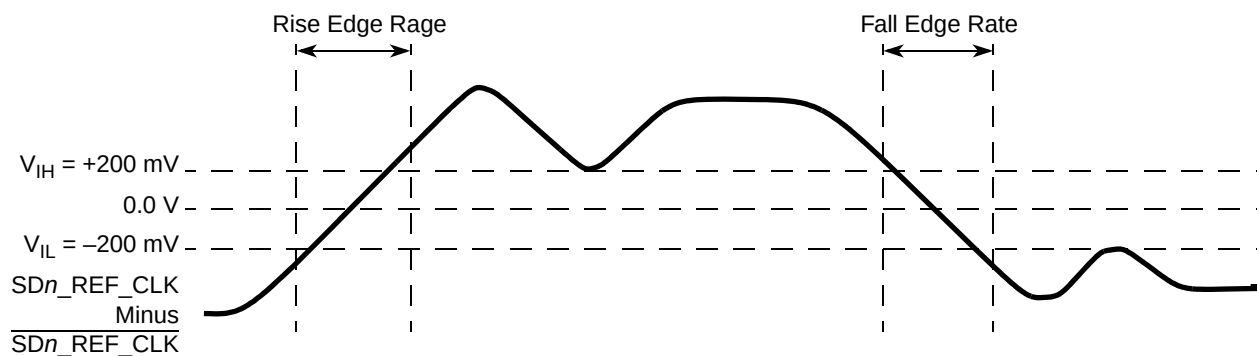

Figure 31. Differential Measurement Points for Rise and Fall Time
3. Measured from –200 to +200 mV on the differential waveform (derived from $\overline{SDn_REF_CLK}$ minus SDn_REF_CLK). The signal must be monotonic through the measurement region for rise and fall time. The 400 mV measurement window is centered on the differential zero crossing. See Figure 31.